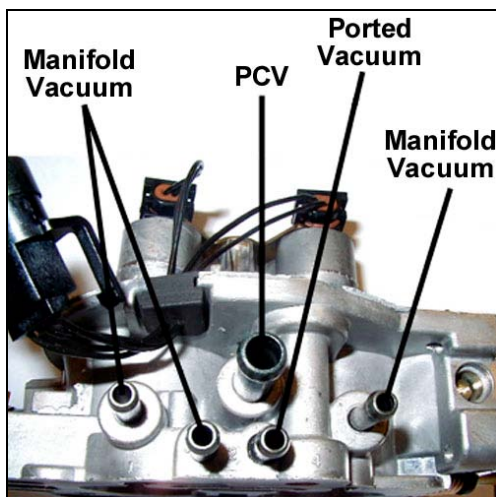

Figure 2
2. Connect all of the vacuum lines that were labeled during the disassembly of the stock fuel system to the throttle body. Figure 2 shows which ports are for manifold and ported vacuum and also PCV. The single fitting on the back of the throttle body is for manifold vacuum.